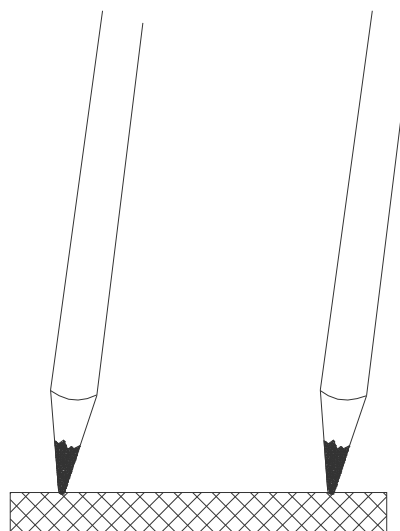

Figure 13
STEP 24. Mark the locations for the fastener holes on the pad (see Figure 13). Two (2) rows of anchors are used, aligned a nominal 1 1/2" from their respective edge of the pad. The rows are staggered, and the anchor hole spacing is a nominal 20" o.c. with an anchor in each row spaced a maximum of 3" from each end of the pad.